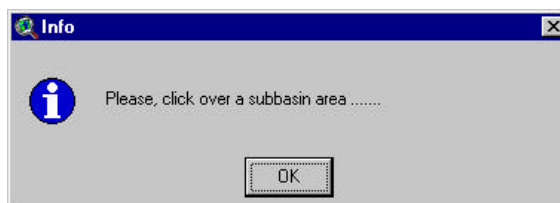

Figure 4.27
- i. If the mouse cursor was located outside the watershed when right clicked, a message box will notify the user (Figure 4.27).